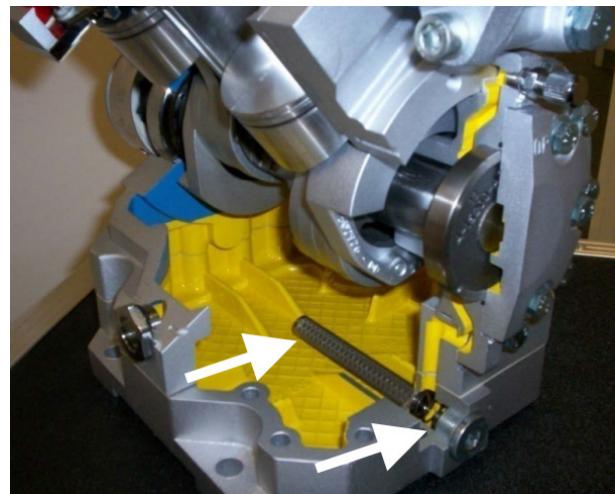

FIGURE 56: FILTER/STRAINER AND THE MAGNETIC DRAIN PLUG LOCATION
1. Remove and clean the compressor pan filter/strainer and the magnetic drain plug (figure 56).